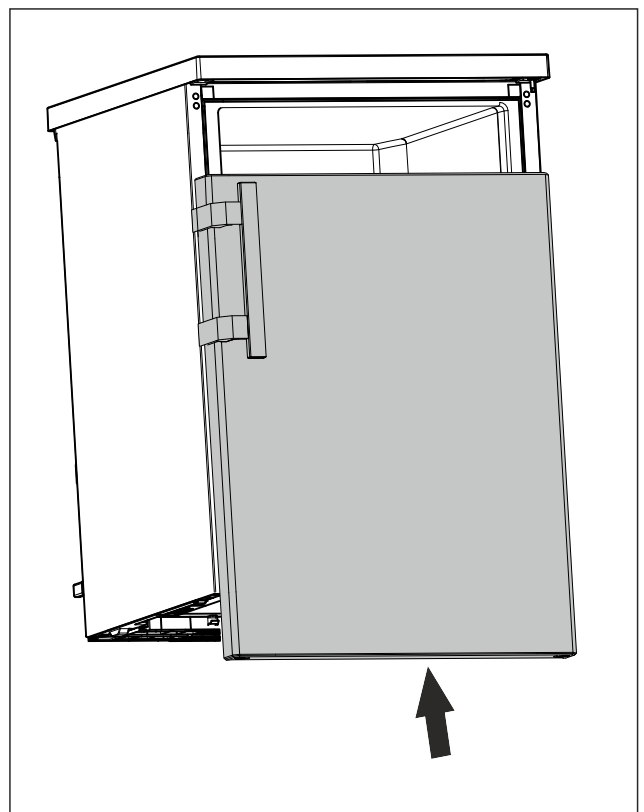

Fig. 16
- Slide the door onto the upper bolt in closed status. (see Fig. 16)